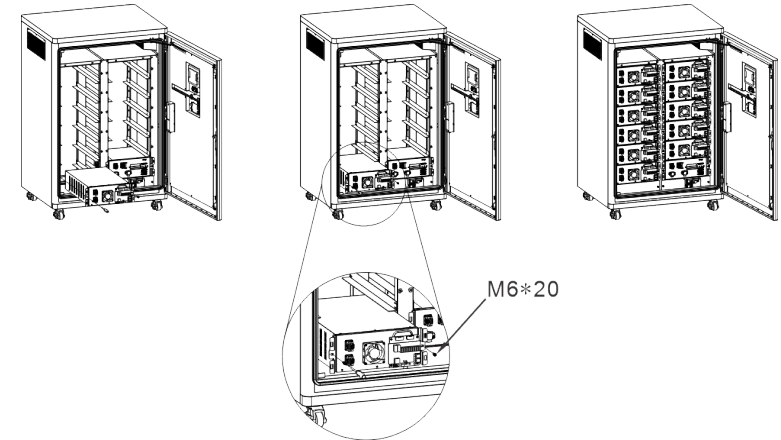

Figure-12 Installation diagram of the battery module (picture is for reference only)
4) Place the battery case in the corresponding position of the battery holder according to Figure-12, and fix the battery case to the battery holder with the matching M6 screw.